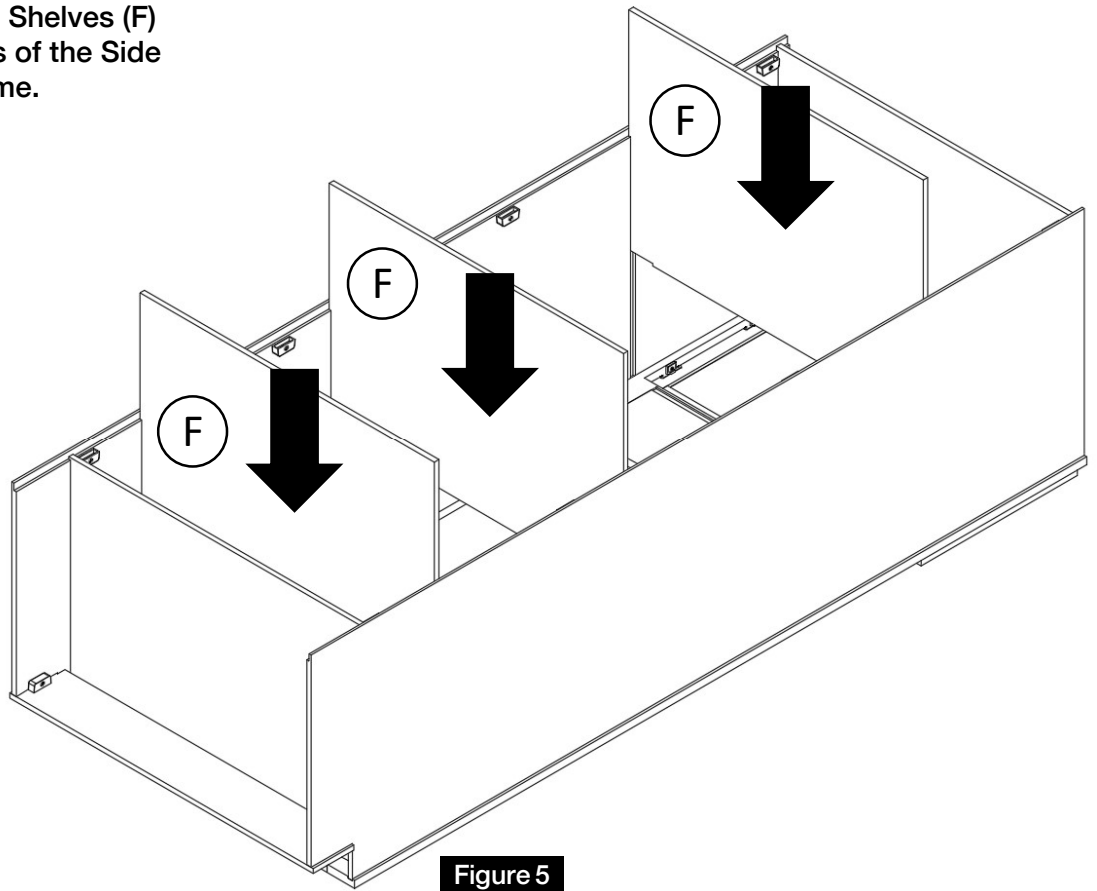

Figure 5
Insert the Fixed Shelves (F) into the grooves of the Side Panels and Frame. (Figure 5)